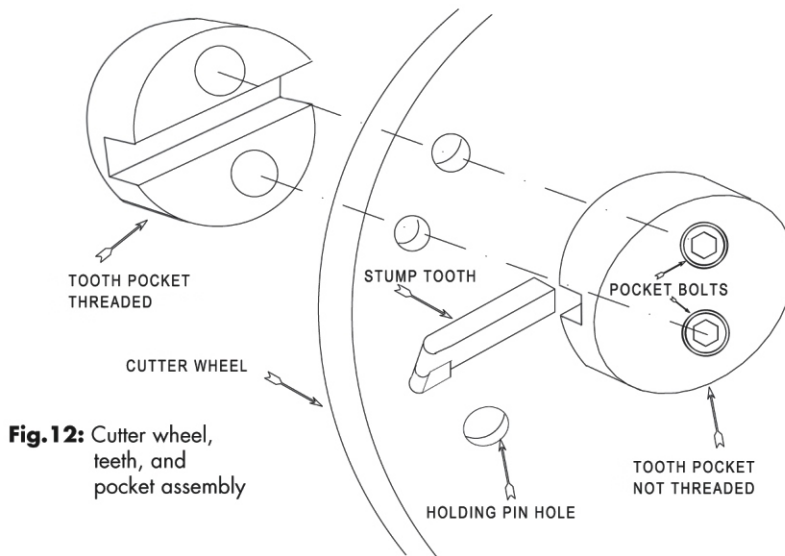

Fig. 12: Cutter wheel, teeth, and pocket assembly
- ii. To prevent cutter wheel from turning, place a pin that is 5/8 in diameter in holding pin hole (see Figure 12)